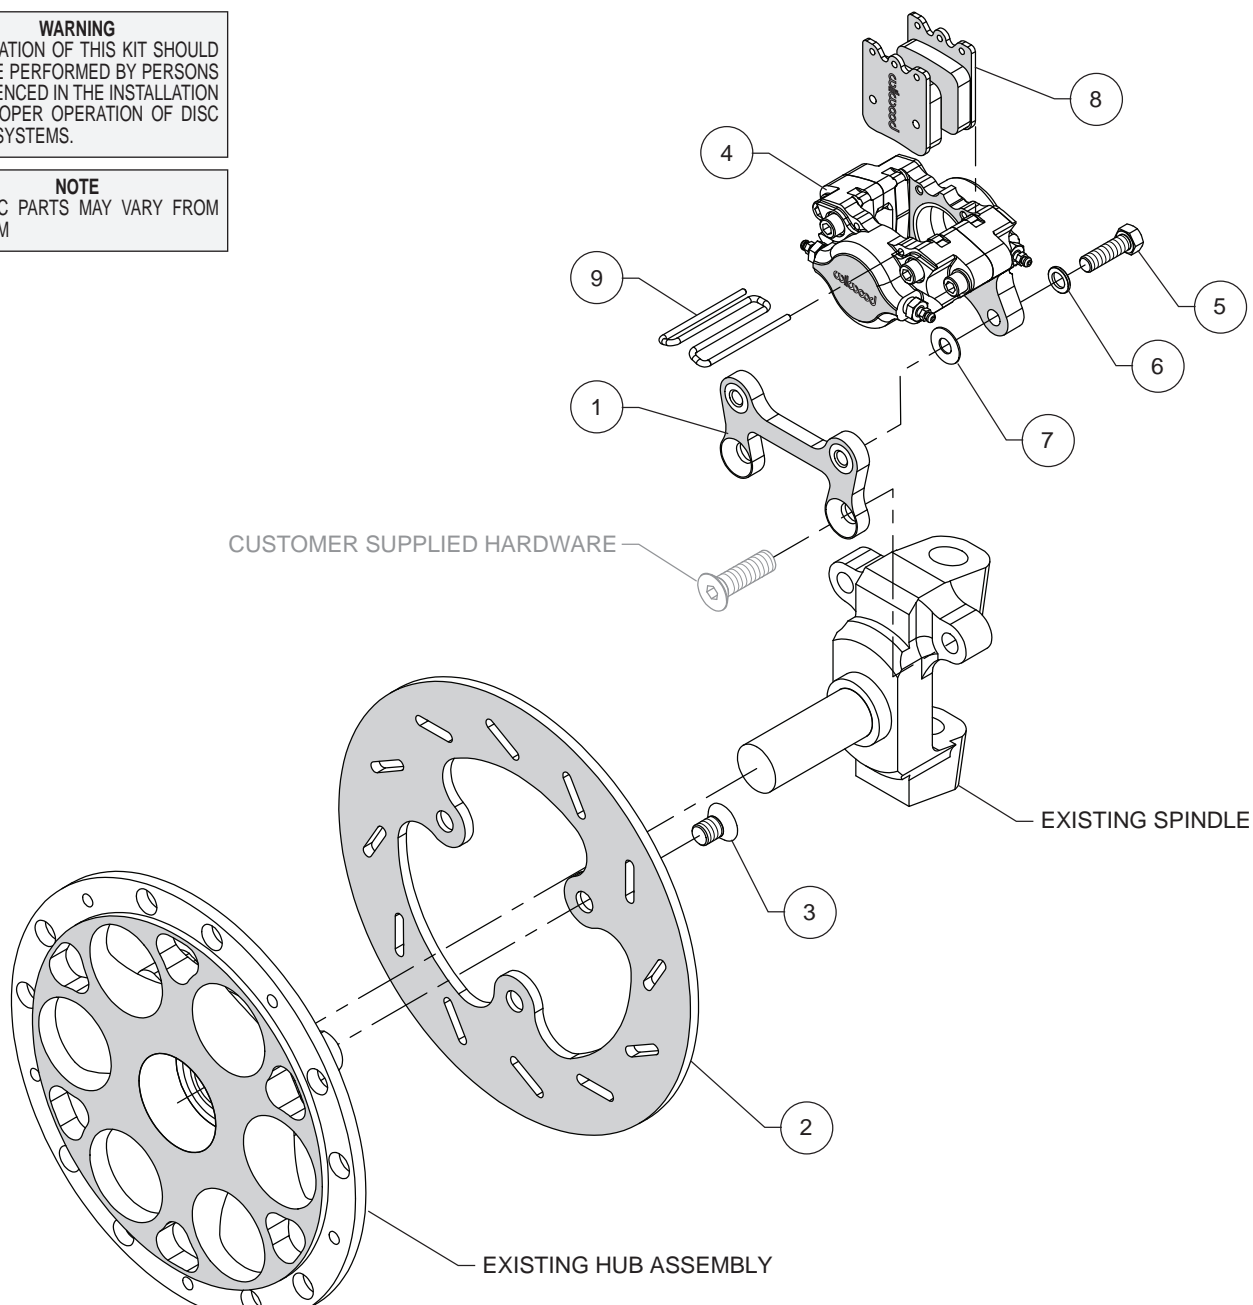
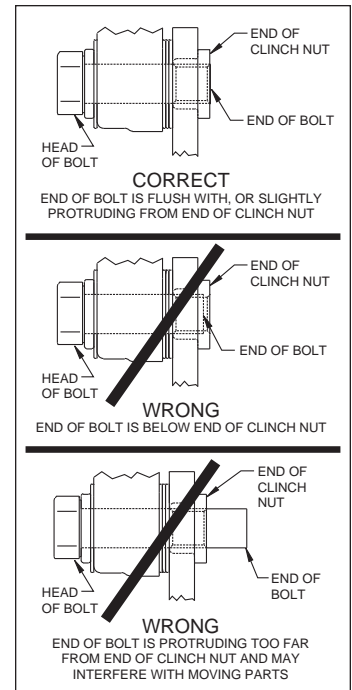

Figure 1. Typical Installation Configuration
Figure 3. Clinch Nut Engagement Diagram
Assembly Instructions (numbers in parenthesis refer to the parts list and Figure 1 on the preceding pages): **CAUTION:** All mounting bolts must fully engage clinch nuts. Be sure to check that all bolts are either flush or protruding through flanged side of clinch nut after shimming, Figure 3.
- Orient the caliper mount bracket (1) as shown in Figure 1, and install using customer supplied hardware. Ensure that the flanged heads of the clinch nuts in the bracket are facing outboard. Temporarily tighten the mounting bolts. **NOTE:** The bracket must fit squarely against the mount bosses on the spindle. Inspect for interference from machining ridges, burrs, etc. Remove bolts one at a time, apply red Loctite® 271 to the threads and torque to specification.
- Mount the rotor (2) to the existing hub assembly using bolts (3) as shown in Figure 1. Apply red Loctite® 271 to the bolt threads and torque bolts to 80 ft-lb.
- **NOTE:** Please reference the caution statement at the beginning of the assembly instructions. Orient the caliper (4), as shown in Figure 1, and install using bolts (5) and washers (6), Figure 1. Initially place one .035" thick shim (7) on each bolt between the caliper and bracket as shown in Figure 1. Temporarily tighten the bolts and view the rotor through the top opening of the caliper. The rotor should be centered in the caliper. If not, adjust by adding or subtracting shims (7) between the bracket and the caliper. Always use the same amount of shims on each of the two mounting bolts. **NOTE:** The end of each bolt must be flush with or slightly protruding from the head of the clinch nut. If necessary, place spare shims between washer and caliper mounting ear to achieve the proper clinch nut engagement, as shown in Figure 3. Once the caliper alignment and clinch nut engagement are correct, remove the bolts one at a time, apply red Loctite® 271 to the threads, and torque to 40 ft-lb. For an added measure of security, the bolts may be safety wired using